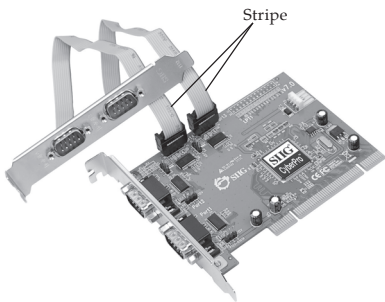

Figure 2: Connecting the Slot bracket with 2 DB9 (9-pin) serial ports
5. If you need all 4 serial ports, install the **Slot bracket with 2 DB9 serial ports**. Remove a second slot bracket from an available PCI slot and install the slot bracket into the computer. See **Figure 2** on page 3.